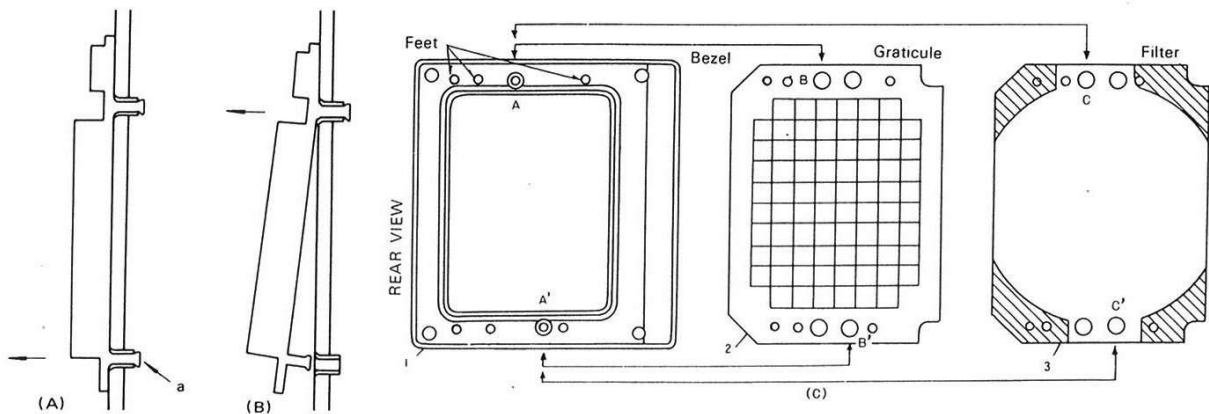

Fig. 3 Removing the Bezel
### 2. REMOVING THE BEZEL (Refer to Fig. 3)
Since the bezel is mounted on the case through the four mold legs on its back, it can directly be removed without using any tool. However, the mold legs may be broken if unreasonable force is exerted carelessly. As shown in Fig. 3 (A), remove the two legs on the bottom side first. They should not be dismantled completely. They should be loosened so that part a of each leg's tip is unlocked as
shown in Fig. 3 (B). Then the remaining two legs on the top side can be dismantled. In dismantling these legs, only vertical force should be exerted always against the panel surface.
When mounting the bezel 1 on the case, as shown in Fig. 3 (C), get the two holes B and B' of the graticule engaged with the two bosses A and A' of the bezel 1. Then get them engaged with the two holes C and C' of the filter 3.